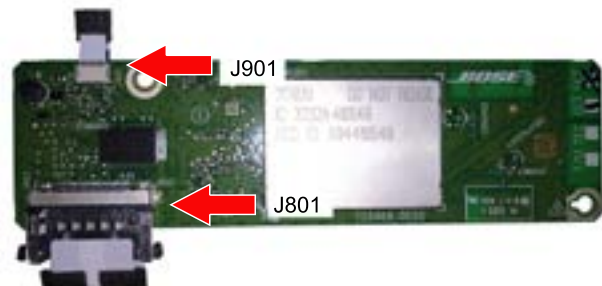

Figure 14. Wi-Fi Module, Cables
7.3 Remove the two screws securing the Wi-Fi Module to the matrix and lift out the Wi-Fi Module. Figure 14.
7.4 Remove the FFC from J901. Press on J801's two connector release tabs and carefully pull out the FFC. Figure 14.